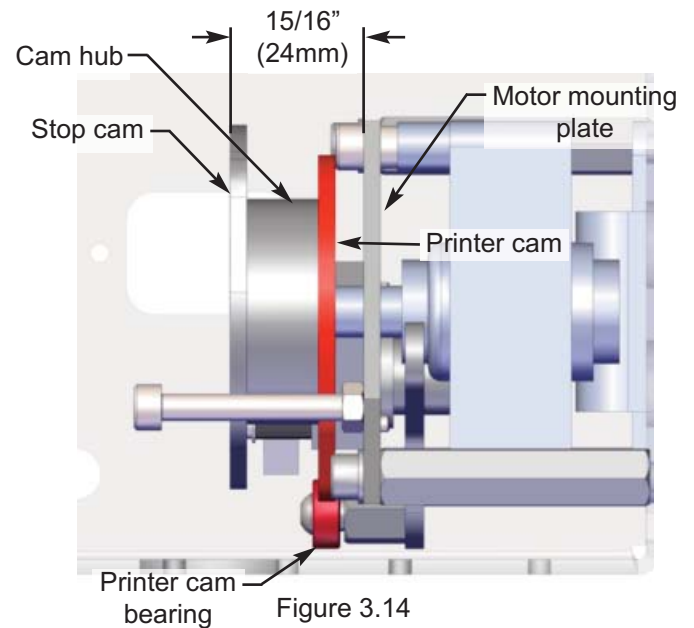

Figure 3.14
M. CAM ASSEMBLY LATERAL ALIGNMENT: Figure 3.14 and 3.15